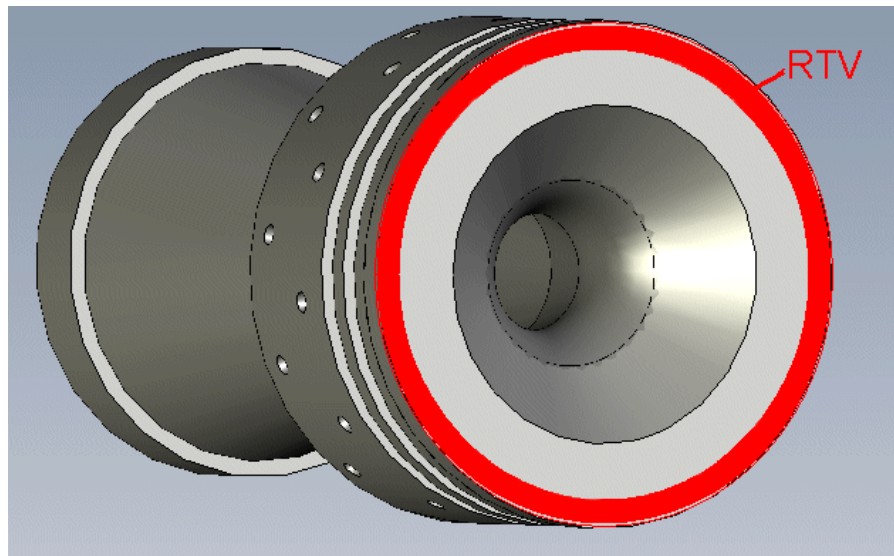

Figure 5 – RTV sealant application zone (red) on Nozzle Assembly
5. Using a craft stick (T4), apply a thin bead of RTV or silicone rubber sealant (P13) to the flat surface of the nozzle inlet, with bead width ¼” around the perimeter, as shown in Fig.5.